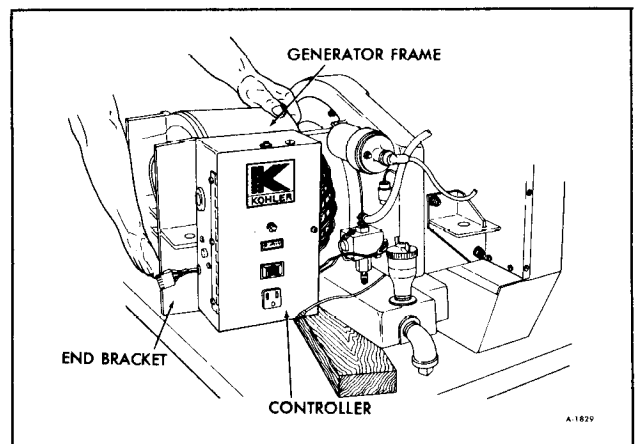

Figure 3—Removing End Bracket
2. Remove generator end cover, lift AC and DC brushes then remove the four nuts which secure the end bracket assembly to the frame of the generator. Use puller to separate the end bracket from the ball bearing (figure 3).